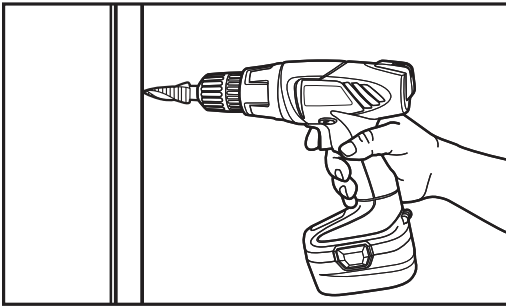

Fig. 1
1. Use a step bit to drill the pilot holes (Fig. 1).